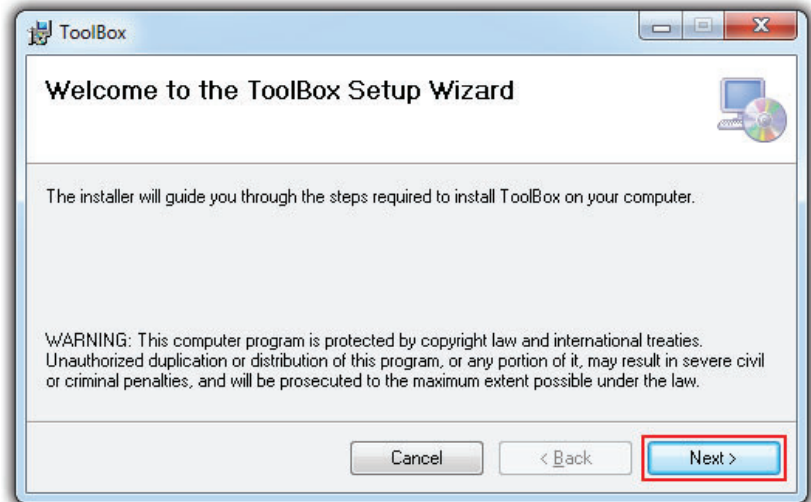

Fig 3
- D** The ToolBox setup wizard will launch (Fig 3).